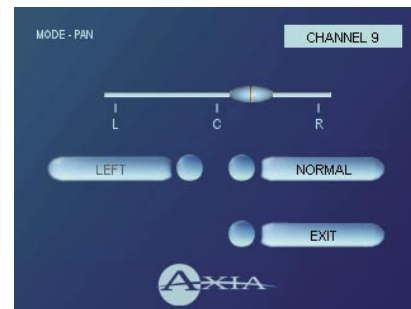

Figure 4-4: Adjusting pan/balance.
- **Pan/Mode** lets the operator adjust the pan/balance of the channel source and correct signal phase errors. Pressing the upper-middle left Soft Key (marked **PAN/MODE**) causes the right-hand screen to display the Pan-Mode Menu (Figure 4-4).